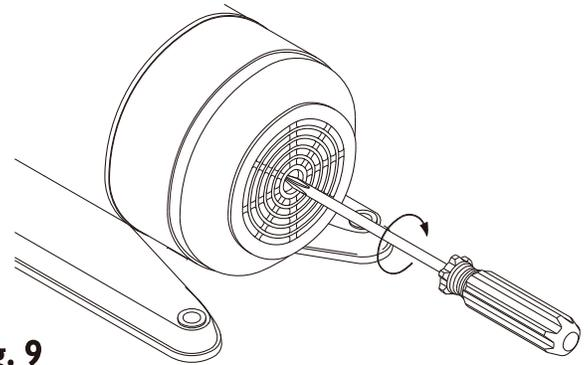

Fig. 9
3. If the pump shaft seizes up after periods of inactivity, please place a screw driver from the motor end to rotate the shaft. It should free the pump shaft (See Fig. 9). If this does not remedy the problem, the unit will need dismantling.